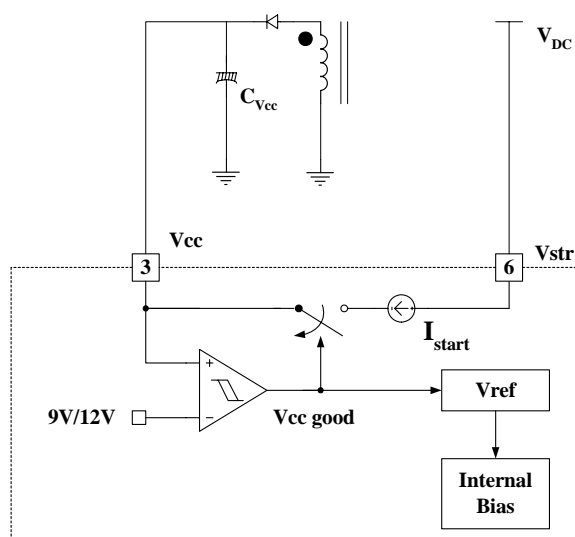

Figure 4. Internal Startup Circuit
1. Startup : In previous generations of Fairchild Power Switches (FPS™) the Vcc pin had an external start-up resistor to the DC input voltage line. In this generation the startup resistor is replaced by an internal high voltage current source. At startup, an internal high voltage current source supplies the internal bias and charges the external capacitor (C_{Vcc}) that is connected to the Vcc pin as illustrated in figure 4. When Vcc reaches 12V, the FPS begins switching and the internal high voltage current source is disabled. Then, the FPS continues its normal switching operation and the power is supplied from the auxiliary transformer winding unless Vcc goes below the stop voltage of 9V.